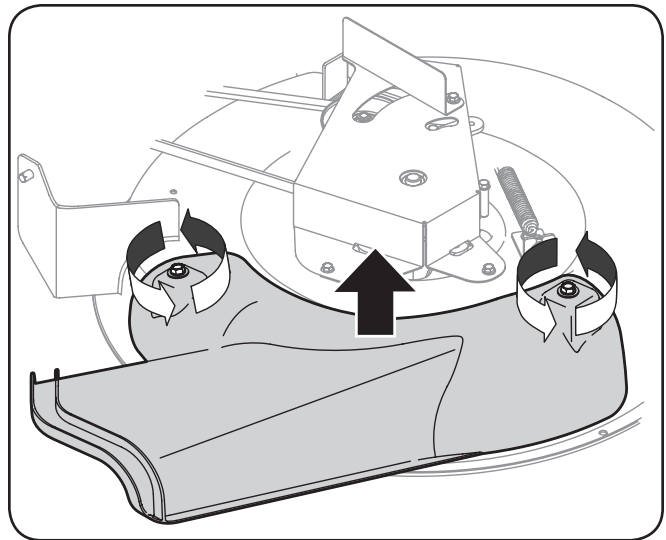

Figure 5-1
1. Unthread the hex screws that secure the discharge chute in place. See Figure 5-1.